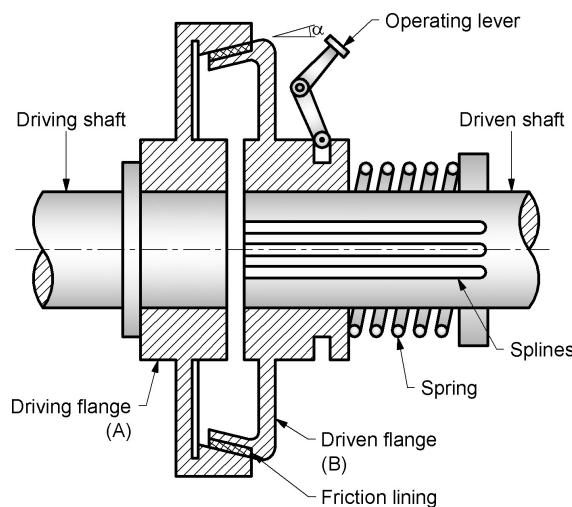

Fig. 7.9 Cone clutch
- (1) It consists of driving cone fixed to the driving shaft and driven cone fitted on the drive shaft by splines so that it can slide on the driven shaft as shown in Fig. 7.9.
- (2) The driven cone has an outer friction lining. The angle between the cone varies from 8° to 15° . During the normal operation, both the cones remain engaged due to the axial force produced by the spring.
- (3) The torque and motion is transmitted from driving shaft to driven shaft by friction between the contact surfaces of the cones. When torque is not required to be transmitted, the cone on the driven shaft is disengaged by pressing the operating lever.
- (4) This moves the driven shaft outwards and moves axially on the splines towards right side. Conical surfaces provide extra frictional force hence torque transmitted is higher than single plate clutch.
- (5) Cone clutch was earlier used in automobiles but now has become obsolete because small amount of wear on the cone surface results in considerable axial movement of the driven cone which makes the life of the cone very short.